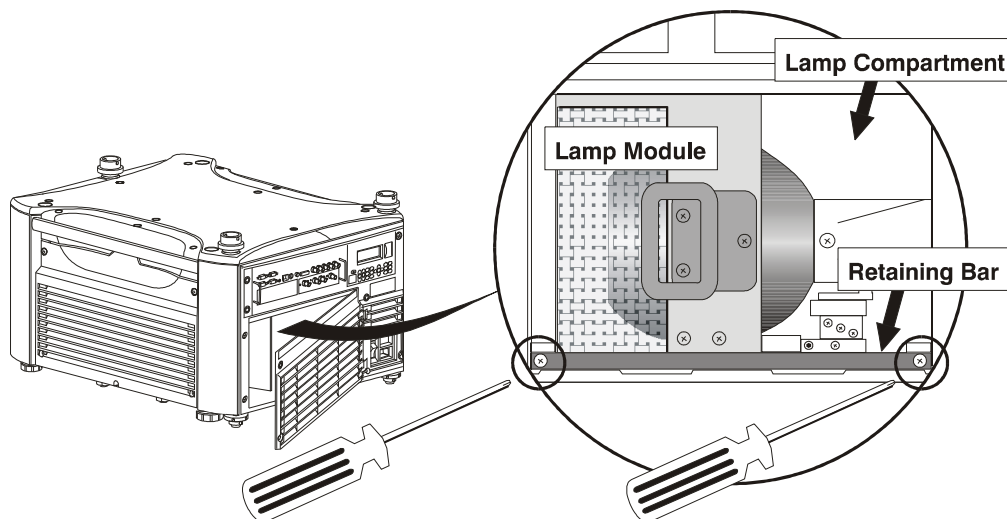

Figure 4-3 Remove Retaining Bar
Remove the two (2) screws that secure the retaining bar along the bottom edge of the lamp module using a #2 Phillips screwdriver. See Figure 4-3. Swing the bar aside—it is hinged on the left.